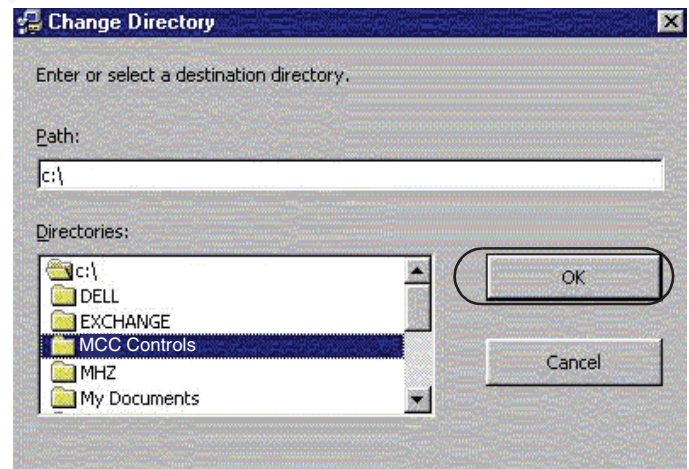

FIGURE 7
10. Locate the **MCC Controls** folder on the **C** drive and click **OK** (see Figure 7).